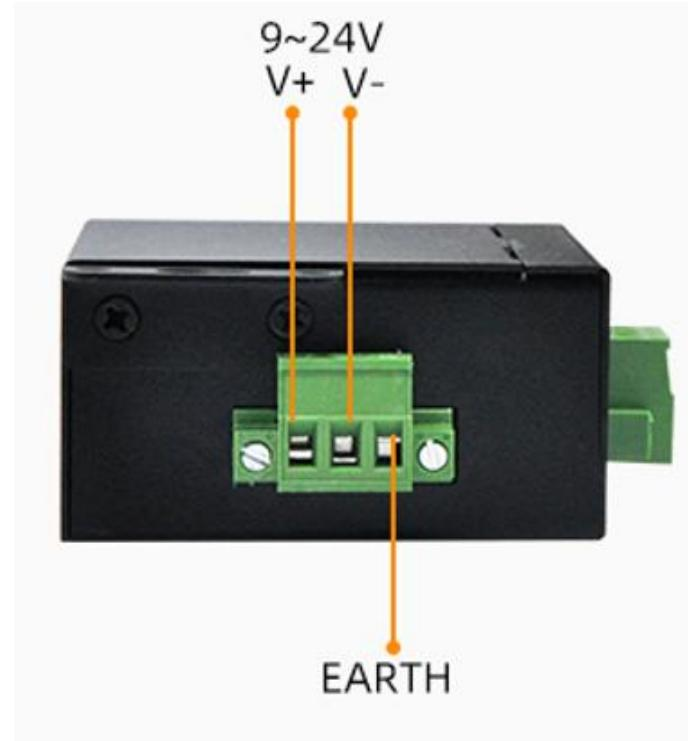

Figure 4 Power interface of 9600/9607
- 1 **Power input:** The terminal block is a 5.08mm terminal. V+ is connected to 9 to 24V, V- to GND, and there is also the ground of the casing, as shown in Figure 4 above.